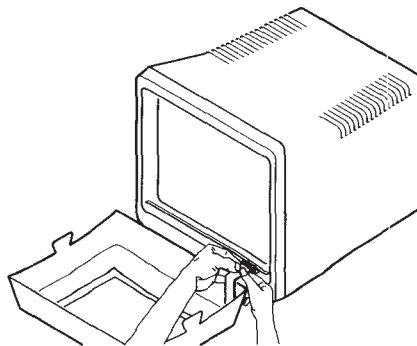

Figure 10-4.
5. Connect the HP Touch cable plug to the socket on the monitor. Make sure the cable is not twisted. The plug clicks into the socket when the connection is properly made (Figure 10-4).